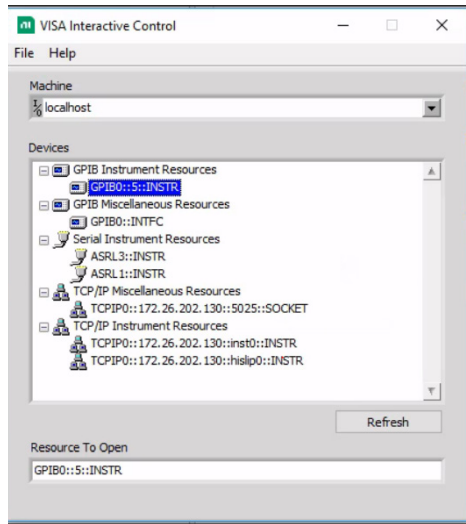

Figure 1-10. VISA Interactive Control
1. On the PC, run VISA Interactive Control and double-click on the instrument listed in the GPIB Instrument Resources section as shown in Figure 1-10.